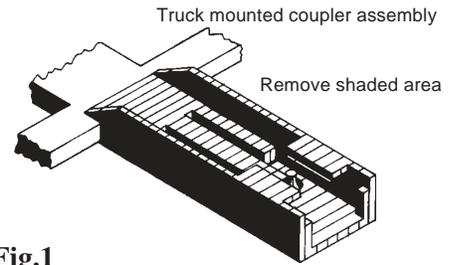

Fig.1
2. Cut off the truck mounted coupler box forward of the truck bolster crossbrace and remove the remaining ridge on top of the crossbrace, see Fig.1.